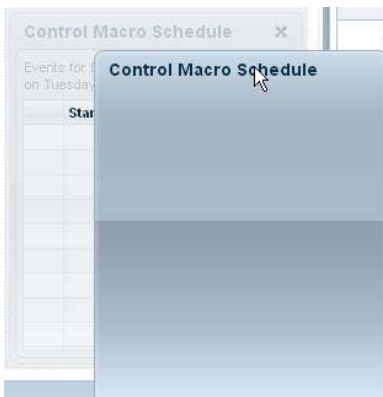

FIG. 84 Moving a Widget
2. Left-click inside the title bar of the widget that you want to move, and drag it to the desired position in the Dashboard (FIG. 84):